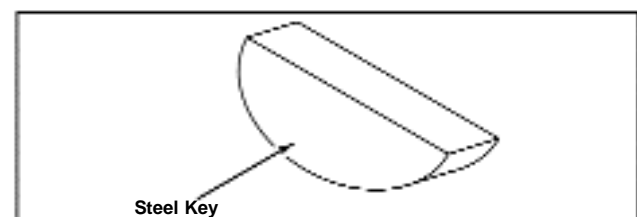
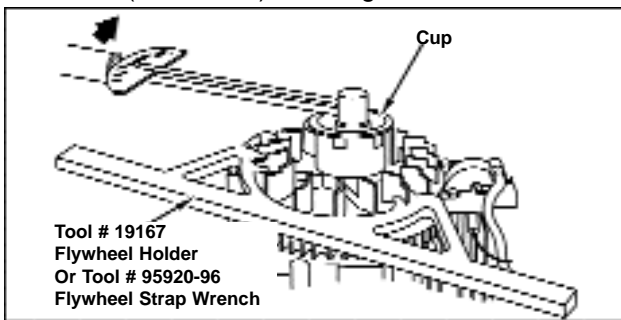

Figure 64 - Inspect Flywheel Key
Figure 65 - Torquing Flywheel, Typical Install Magnetron® Armature
5. Turn screw retainer nuts up until 1/2" of threads are exposed, Figure 64. Then, install flywheel puller turning screws until nuts bottom.
Inspect flywheel key for partial or complete shearing. If sheared, replace, Figure 64. Flywheel should be inspected for cracks, burrs on taper or keyway, and distortion of keyway. Also, check taper of crankshaft for burrs, rust, or other damage. Check fan or flywheel for broken fins. If parts are damaged, replace with new parts.
**Note:** On 9 and 13 H.P. engines, use only the BRIGGS & STRATTON STEEL KEY. DO NOT use substitutes. See Figure 64.
**Note:** The flywheels for 13 H.P. engines have two (2) key ways in the flywheel taper. The correct key way to use is the one to the left of the flywheel puller hole closest to the flywheel magnet.
5. Using fly wheel holder, torque fly wheel nut to 60 ft.lbs. (81.36 Nm.). See Figure 65.